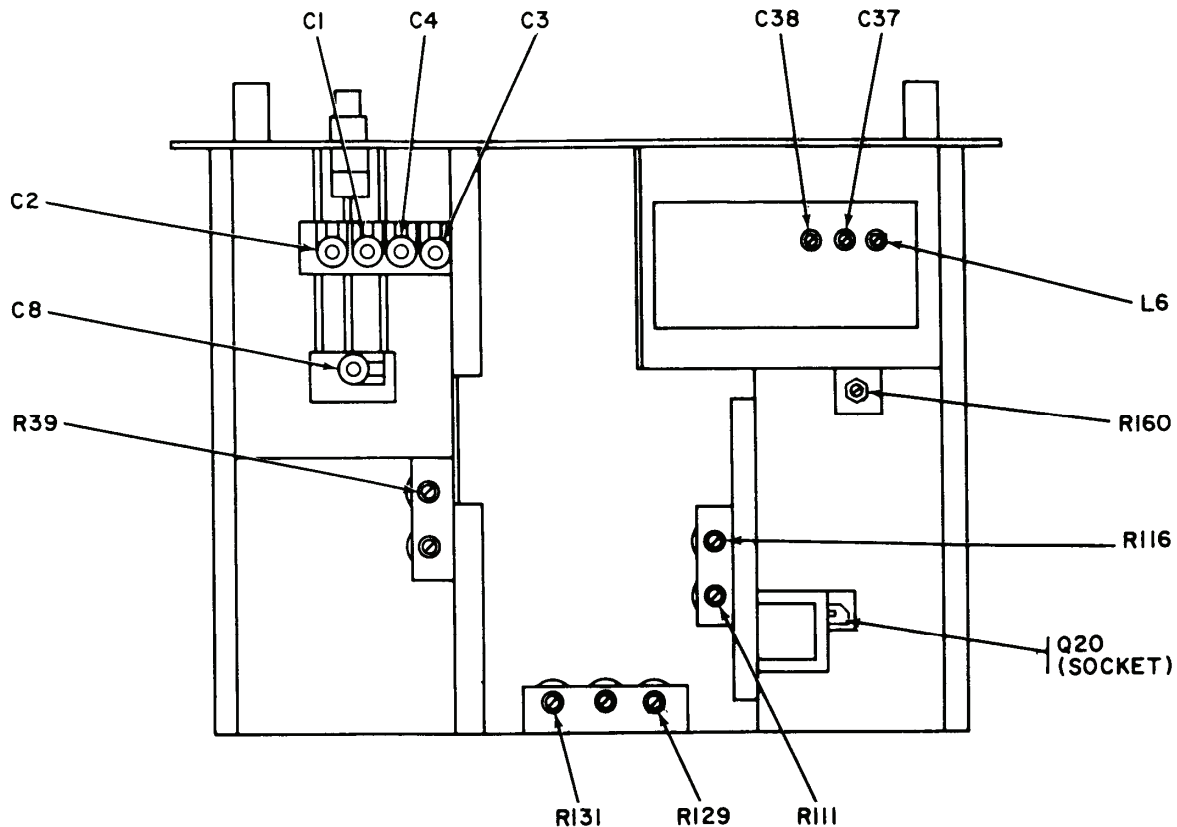
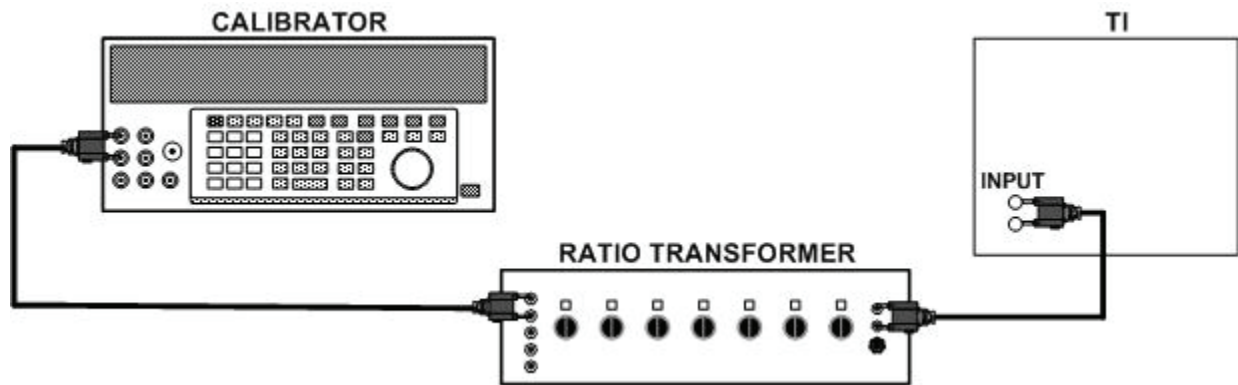

Figure 1. Wave analyzer - adjustment locations.
Figure 2. Calibrator and voltage accuracy - equipment setup.
- (6) Substitute frequency counter with multimeter.
- (7) Vary **FREQUENCY** dial from 20 Hz to 50 kHz. If multimeter does not indicate at least 1 V, perform **b** (3) below.
b. Adjustments (fig. 2)
- (1) Adjust L6 for out-of-tolerance indications on low end of **FREQUENCY** dial (R).
- (2) Adjust C37 (fig.1) and C38 (fig. 1) for overall in-tolerance indication (R).
(3) Adjust R116 (fig. 1) for an indication of at least 1 V rms on multimeter (R).
- (13) Connect equipment as shown in figure2.
(1) Adjust calibrator for an output of 1.0 Vac.
(2) Set **RANGE (VOLTS)** switch to **METER CAL**.
(3) Adjust **METER CAL** adjustment screw until TI **R.M.S. VOLTS** meter indicates 1.0 to 1.0 scale.
(4) Adjust **FREQUENCY** dial for maximum indication on TI **R.M.S. VOLTS** meter (approx. 4 to 5 kHz).
(5) Adjust R39 (fig. 1) until TI **R.M.S. VOLTS** meter indicates 1.0 on 0 to 1.0 scale (R).
(6) Adjust R111 (fig. 1) until oscilloscope indicates 7 V p-p (R).
(1) Adjust calibrator output amplitude for indication as established in **a** (5) above.
(2) Adjust C3 (fig. 1) until TI **R.M.S. VOLTS** meter indicates value recorded in **a** (5) above (R).